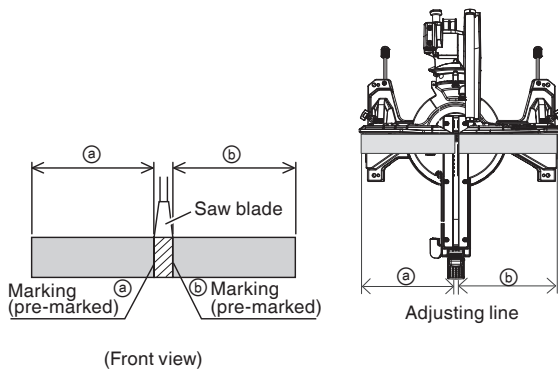

Fig. 26
- (1) As shown in Fig. 26 the width of the saw blade is the width of the cut. Therefore, slide the workpiece to the right (viewed from the operator's position) when length (b) is desired, or to the left when length (a) is desired. If a laser marker is used, align the laser line with the left side of the saw blade, and then align the ink line with the laser line.
- (2) Once the saw blade reaches maximum speed, push the handle down carefully until the saw blade approaches the workpiece.
- (3) Once the saw blade contacts the workpiece, push the handle down gradually to cut into the workpiece.
- (4) After cutting the workpiece to the desired depth, turn the power tool OFF and let the saw blade stop completely before raising the handle from the workpiece to return it to the full retract position.